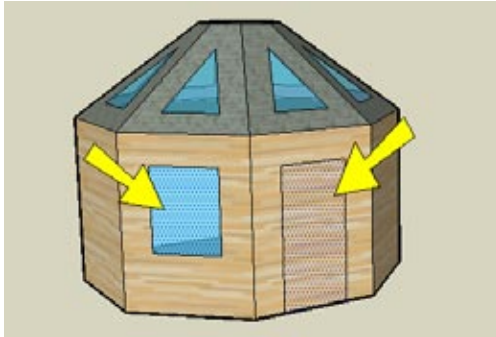

Figure 1-51
13. Select both of these faces (Figure 1-51).